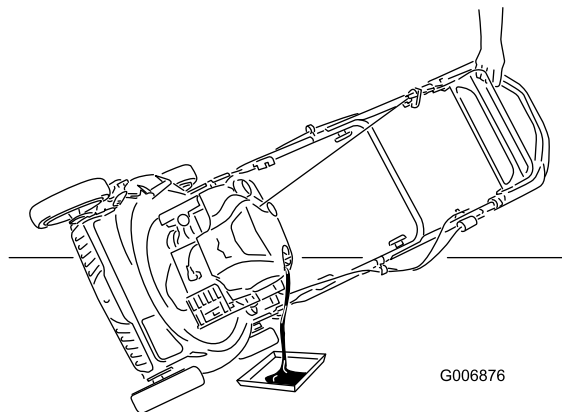

Figure 31
3. Tip the mower onto its side with the air filter up to drain the used oil out through the oil fill tube (Figure 31).